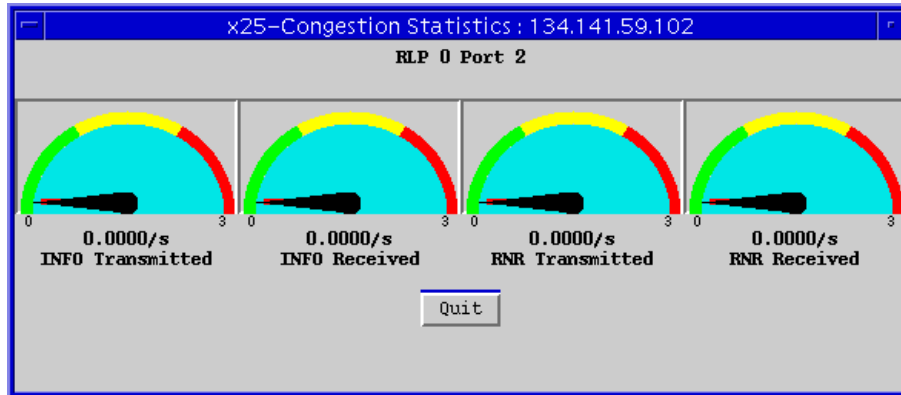

Figure 6-3. X.25 Congestion Stats
2. Drag down to **X25 Congestion Stats**, and release. The X25 Congestion Statistics window, Figure 6-3, will appear.